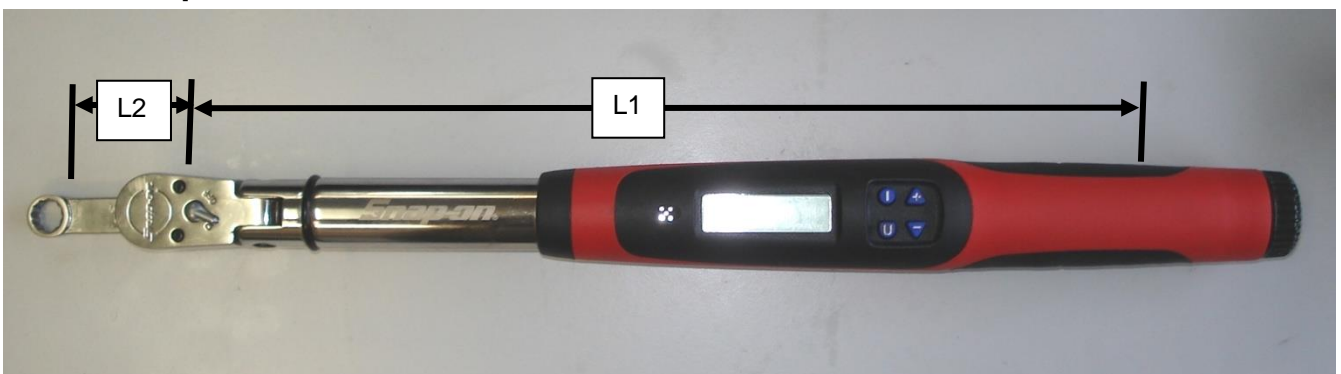

Figure 29 – Torque Wrench & Crowsfoot Adaptor Setting 1
- A “Crowsfoot” extension as shown in Figure 26 is also necessary – it allows high torque settings to be used on small nuts without damaging them. The crankcase through bolt nuts used on Jabiru engines are a good example of an application suitable for a crowsfoot extension. However, when using the extension as shown in Figure 29 the extra length will throw off the torque setting of the wrench. This must be corrected using the following formula:
- For example: a nut needs to be tensioned to 30lb.ft. The torque wrench is 12” long and the crowsfoot extension is 2” long. The extension is oriented as shown in Figure 29. This means that the torque wrench must be set to: